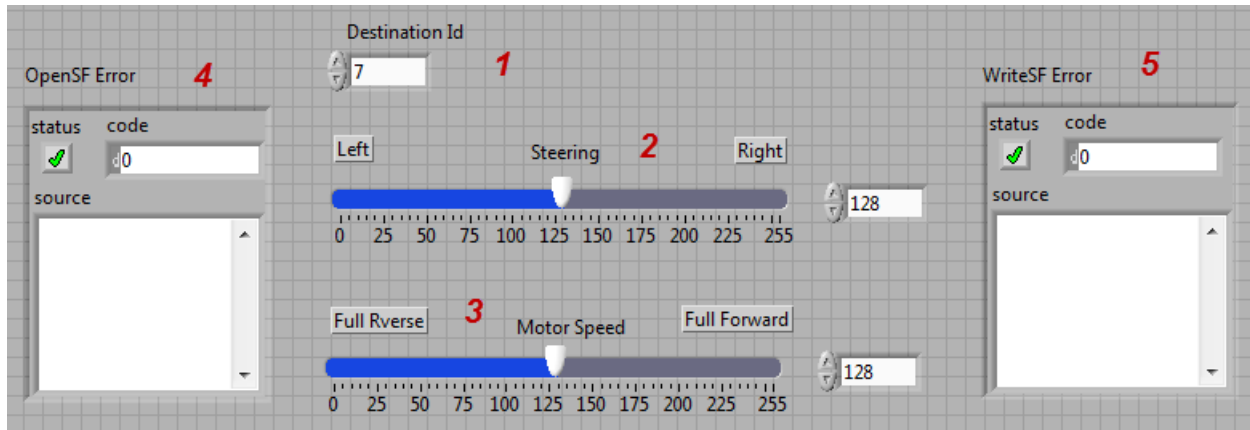

Figure 1:
Figure 1 shows the communication link between the PC and truck clearly. Labview creates a TCP client process that connects to the TCP server. The TCP server has been created by the serial forwarder (SF). Thus a TCP connection will be established between the LabVIEW and the SF.
This labVIEW program shows how to control the truck by sending actuation data to it. Figure 1 shows the front panel of the program.